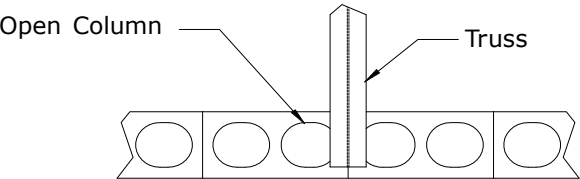

Figure E-3
**Caution** — it is critical that the distance between the truss centers on **both ends** of the trusses is correct as per figures E-3 and E-4.